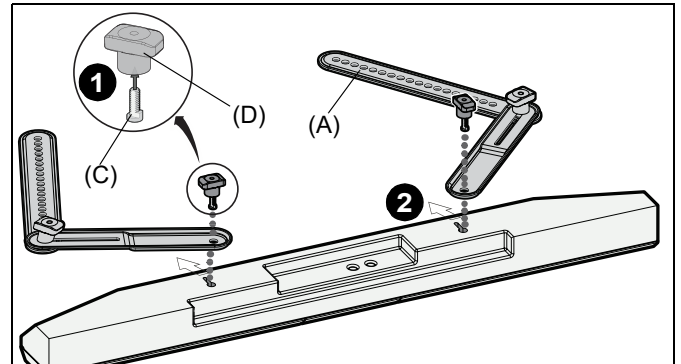

Figure 3
1. Assemble knobs (D) and keyhole screws (C). (See Figure 3)
2. Attach the soundbar brackets (A) to soundbar using the knob assemblies. (See Figure 3)